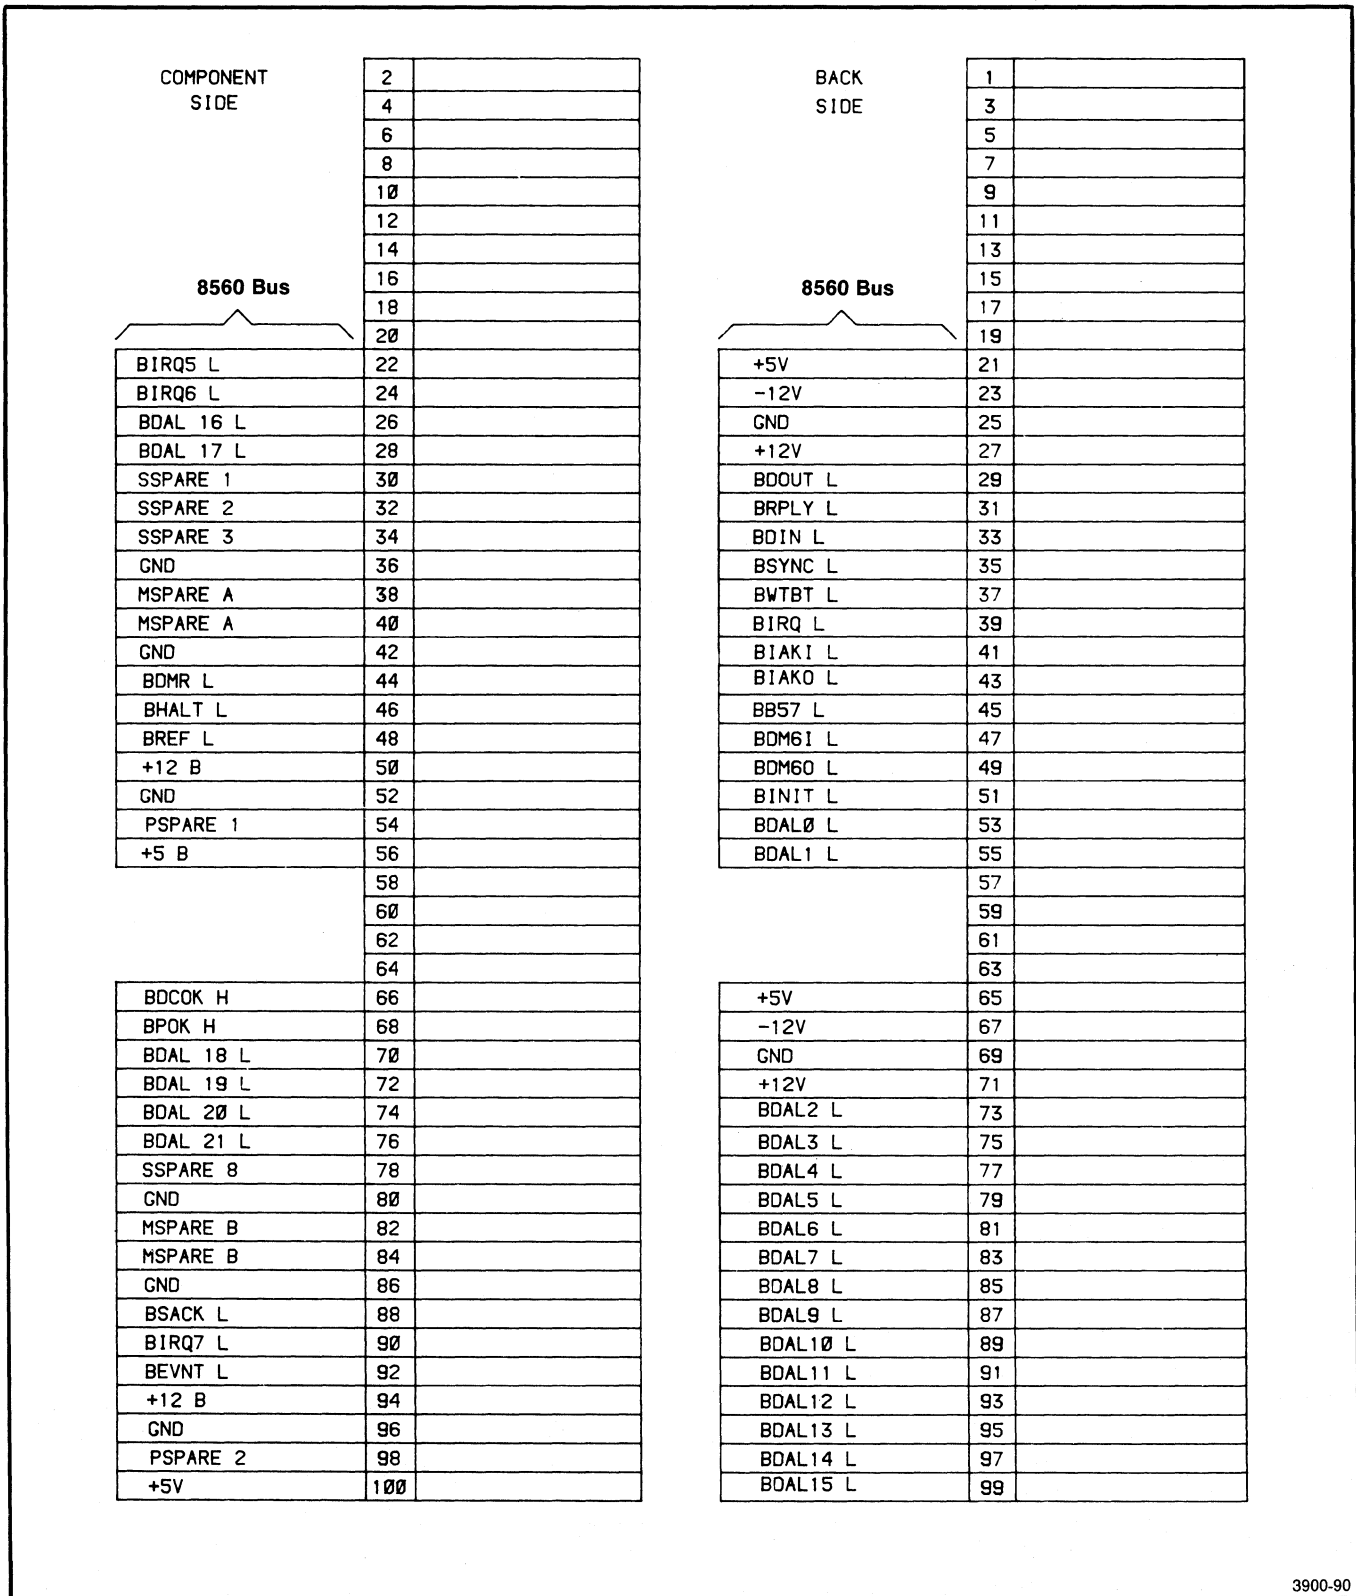

Fig. 19-3. J8 and J9 System Memory Boards 2 and 1.
- J8—System Memory Board 2 (Fig. 19-3)
- J9—System Memory Board 1 (Fig. 19-3)